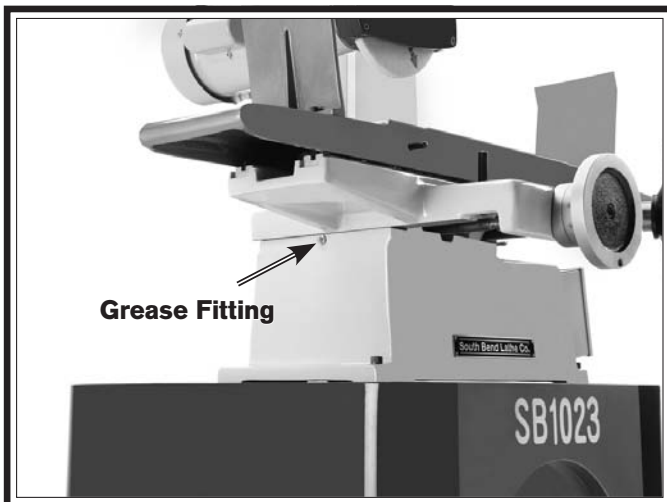

Figure 39. Cross way grease fitting.
5. Wipe the table cross feed grease fitting clean (**Figure 39**), and put two or three pumps of grease into it. Wipe off any grease that bleeds through the seams.